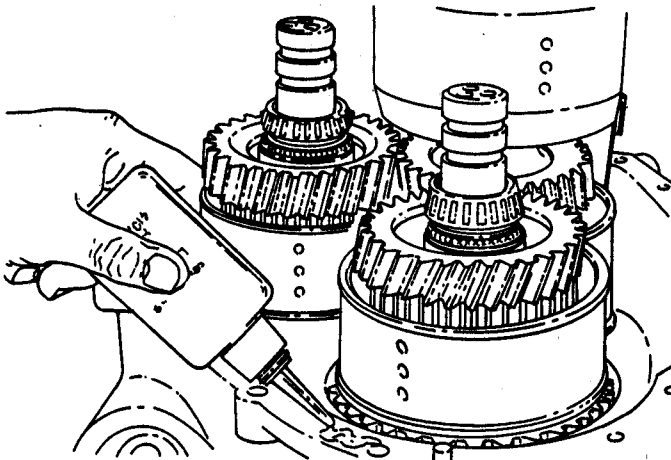

Figure 24.
17. Apply a good grade liquid gasket in front case mating face (Figure 24). Prior to fitting the rear (output) case, make sure all bearings have been coated with high pressure grease. Make sure all piston rings seals are in good condition and have been coated with grease.